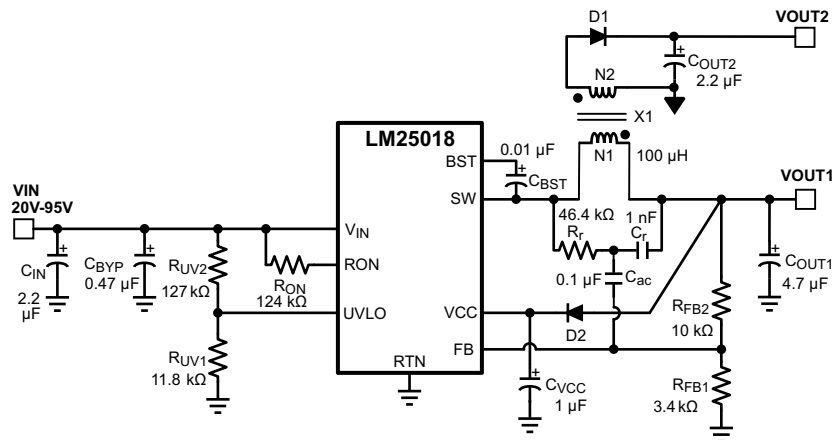

Figure 17. Typical Isolated Application Schematic
An isolated supply using LM25018 is shown in Figure 17. Inductor (L) in a typical buck circuit is replaced with a coupled inductor (X1). A diode (D1) is used to rectify the voltage on a secondary output. The nominal voltage at the secondary output ( $V_{OUT2}$ ) is given by Equation 20.